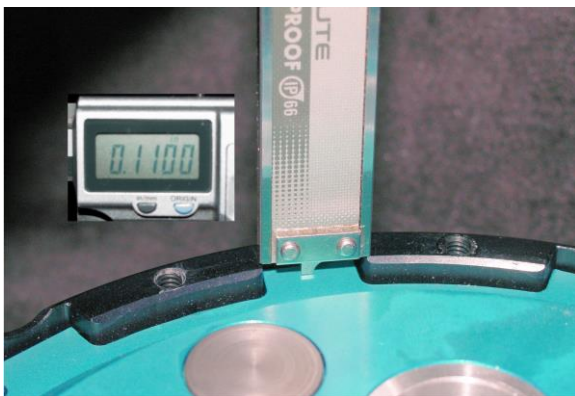
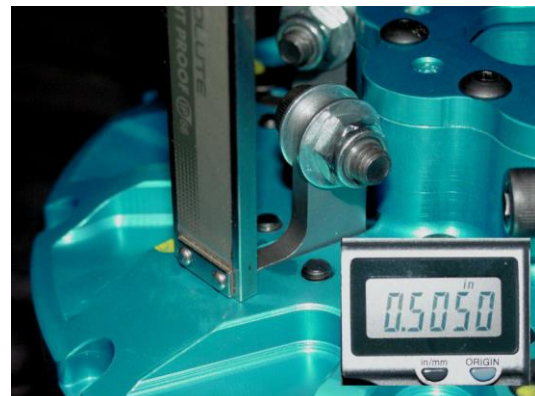

Fig. 1
Fig. 2
- C. Once the basket is in place, replace the hardened steel spacer that goes between the face of the clutch basket and the inner hub with the four (4) piece needle bearing spacer supplied with your unit. **Make sure the needle bearing has a thrust washer on both sides.** Install the modified stock hub. Tighten the locking nut to the factory specification. Check to make sure you have the correct end play on your basket after tightening. If you don't have .003 to .006" end play clearance, the inner hub will not rotate when the nut on the input shaft is tight. If the basket has too much end play, it could cause damage to the clutch or engine.
- E. Install the friction and metal plates the same way as with the stock procedure, **start with an OEM thick fiber**, then steel, then fiber, then steel, continue until you end with a fiber. ~~The Kawasaki KZ1000 Gen II clutch has (7) steels (7 OEM steels 0.091") and (8) fibers (2 MTC fibers 0.118", and 6 OEM fibers 0.151") plates. The total clutch pack should be approximately 1.779". As of 12/17/12, clutch pack consists of (7) OEM Steels .091" thick, (4) MTC Fibers .118" thick, and (4) OEM fibers .151" thick, approximately 1.719" stack height.~~
- F. Insert the pressure plate on top of the last fiber. The height from the top of the tang, on the pressure plate to the top of the basket should be approximately 0.110" (See Fig. 1). This will give you an air gap below your arms to the buttons of 0.110".
- G. Place the hat assembly on the basket and tighten the twelve (12) allen head cap screws to secure it.
- H. The air gap between the arms and the pressure plate buttons can be measured using the thin bottom section of a caliper. Stick the caliper rod into the slot opening just behind the arm (See Fig. 2) until it hits the top of the button on the pressure plate. Take a height reading to the top of the Gen II hat, this reading should be between 0.490"-0.510". This gives an air gap of 0.100"-0.120". It is better to start with an air gap of 0.100" to compensate for clutch wear. This technique can be used to maintain the air gap, after repeated runs, without removing any part of the clutch.